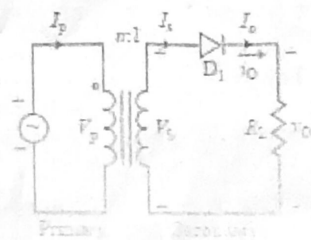

Figure Q5(b)
- (b) The single-phase halfwave rectifier of Fig. Q5(b) is supplied from a 220 V, 50 Hz source through the step-down transformer with turns ratio $n = 15:1$. The load resistance R_L is 5Ω. Determine: